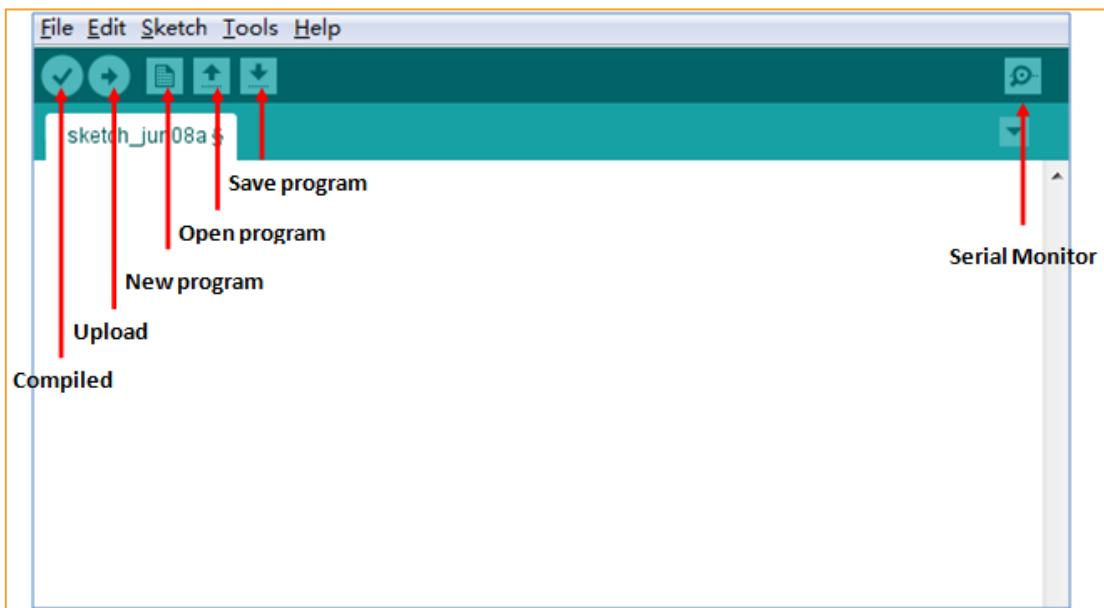

Figure 2-2-12 Arduino IDE Interface
1、 The first thing you can see is the interface of the following figure. The functions of the toolbar buttons are "Compile" - "Upload" - "New Program" - "Open Program" - "Save Program" - "Serial Monitor" , as shown in Figure 2-2-12.